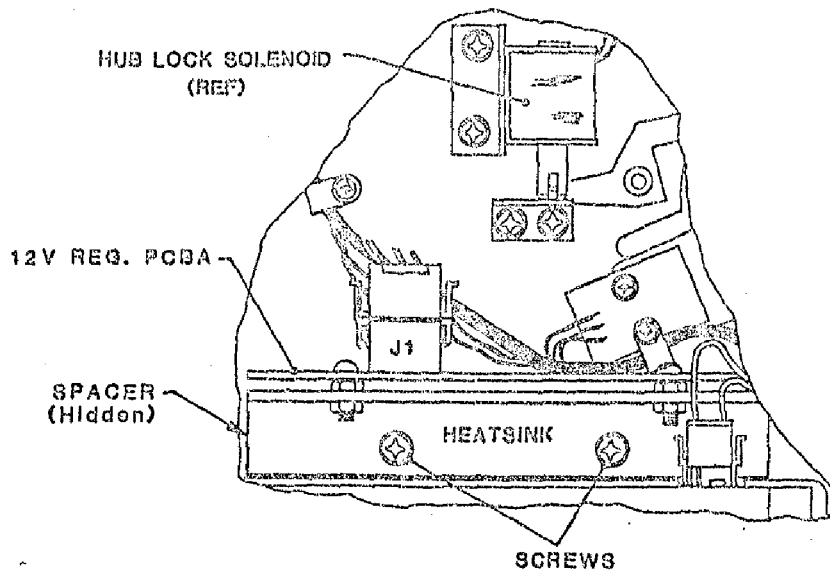

Figure 5-14. 12-VDC Regulator Power Supply
5.3.13 12-VDC REGULATOR ASSEMBLY (Fig. 5-14)